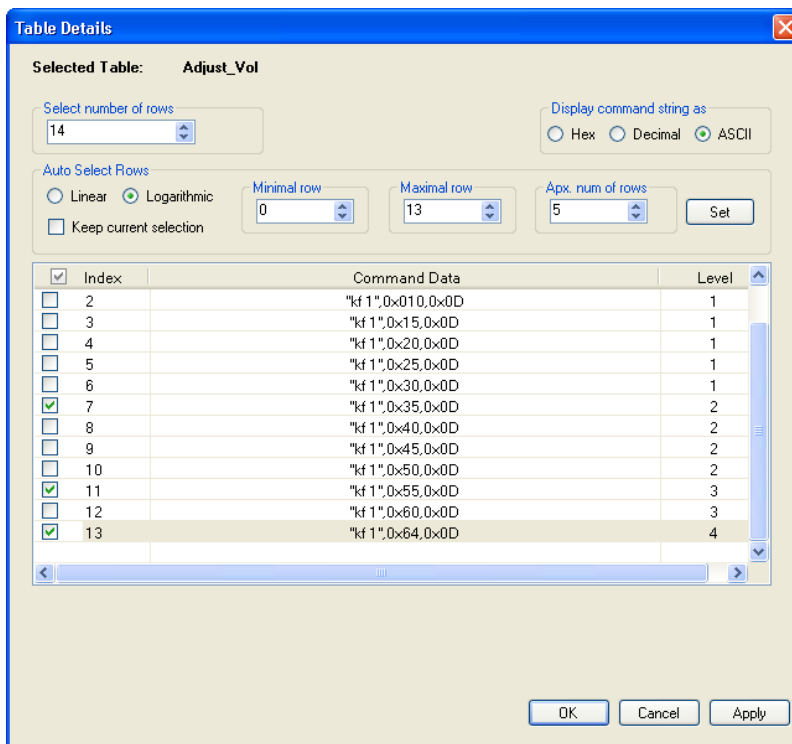

Figure 148: Setting the LED Levels
- Select None if you do not want the LEDs to behave as defined in the commands table (see Figure 148), or select the RC device whose LEDs should behave as defined in the table: